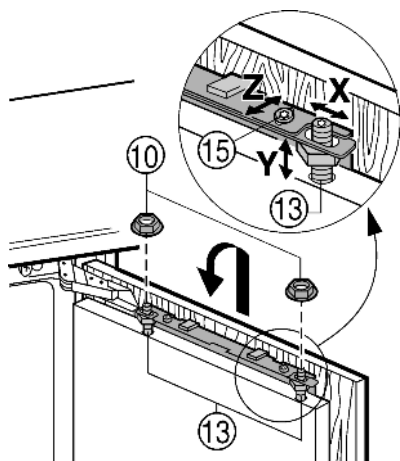

Fig. 18
- ▶ Attach the unit door to the adjusting bolts Fig. 18 (13) and loosely screw the locknuts Fig. 18 (10) onto them.
- ▶ Align the door vertically Y and in the lateral inclination: adjust adjusting bolts Fig. 18 (13) with a screwdriver.
- ▶ Tighten locknuts Fig. 18 (10).